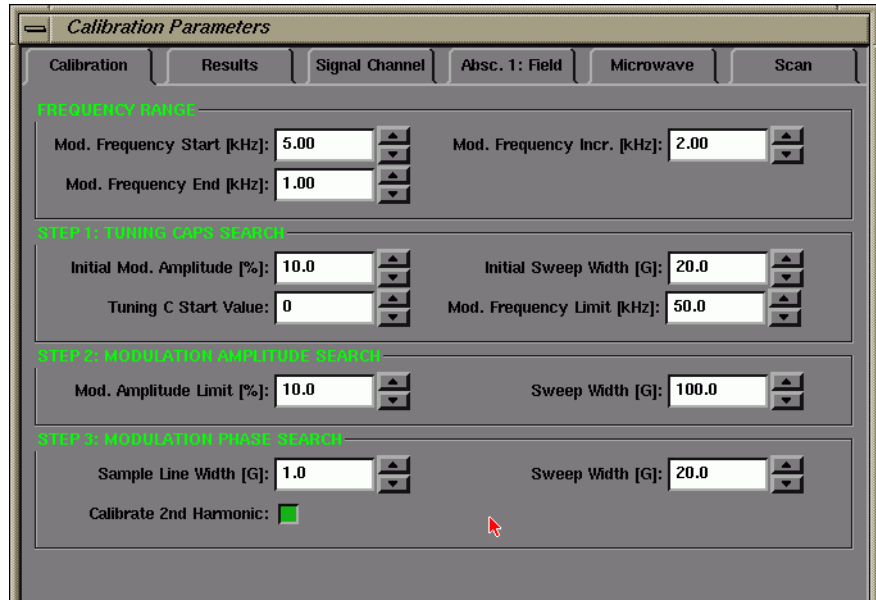

Figure 17-15 Changing the Frequency Range.
25. **Adding additional frequencies.** If you wish to add more frequencies to the calibration file, for example lower frequencies below 10 kHz, the remaining instructions guide you through the necessary steps. Click the Calibration tab. Change the Mod. Frequency Incr. (for example, to 2 kHz). Change the Mod. Frequency Start (for example to 5 kHz). Change the Mod Frequency End (for example to 1 kHz). (See Figure 17-15.) For modulation frequencies less than 10 kHz you need to reset the Mod. Amplitude Limit to 10%.